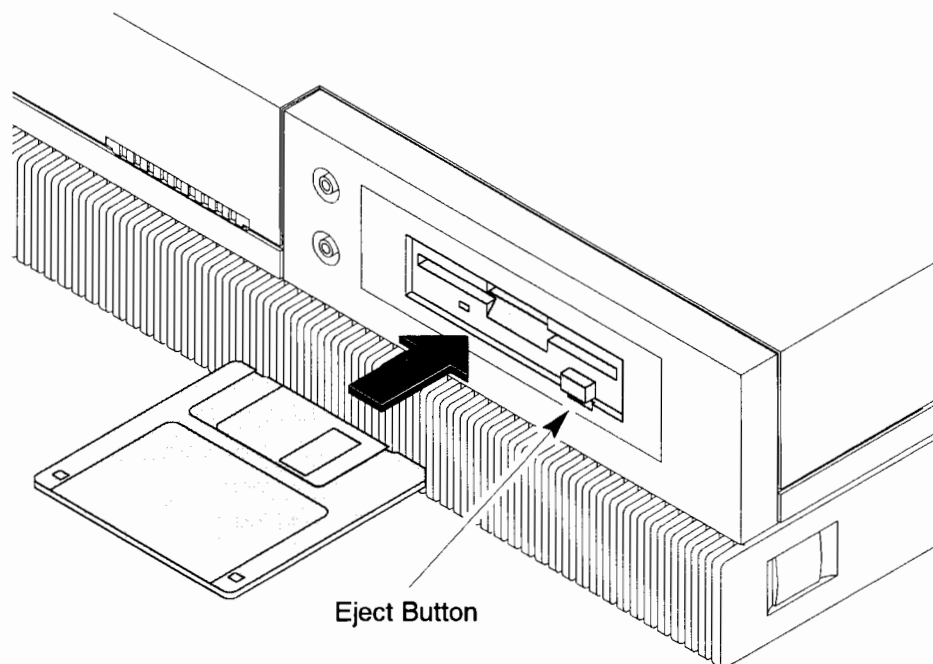

Figure 3-2. Inserting and Removing a Floppy Diskette
1. Insert the diskette into the drive, as shown in Figure 3-2.
3. To remove the diskette, push the eject button on the front of the floppy drive (see Figure 3-2), then take out the diskette.